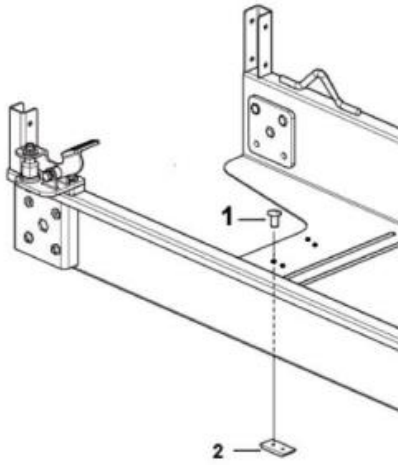

Fig. 3.4 Installation of extended platform slider
4. As shown in Fig. 3.4, place the slider 2 on the lower plane of the extended platform base plate; keep the blind rivet 1 and the slider 2 concentric with the extended platform base plate hole; and let the blind rivet 1 go through from top to bottom to fix the slider 2 on the extended platform base plate to ensure firmness and reliability.